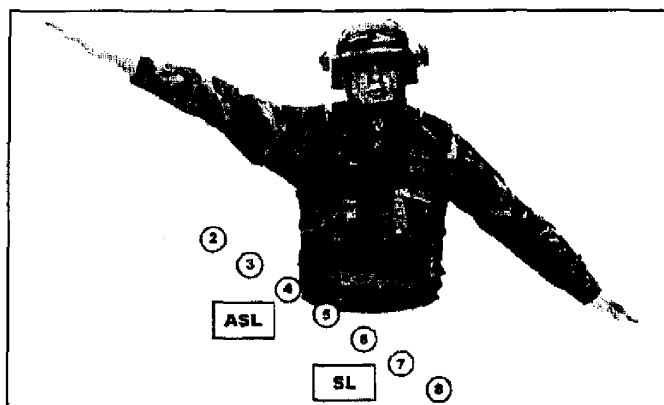

Figure 191-376-4122-5. Hand Signal for a squad right formation
5. Form the squad echelon-right formation using hand signals as shown in Figure 191-376-4122-5. Assume the safe port position when the command of "SQUAD ECHELON RIGHT" is given or when the squad leader gives the hand signal for an echelon-right formation.